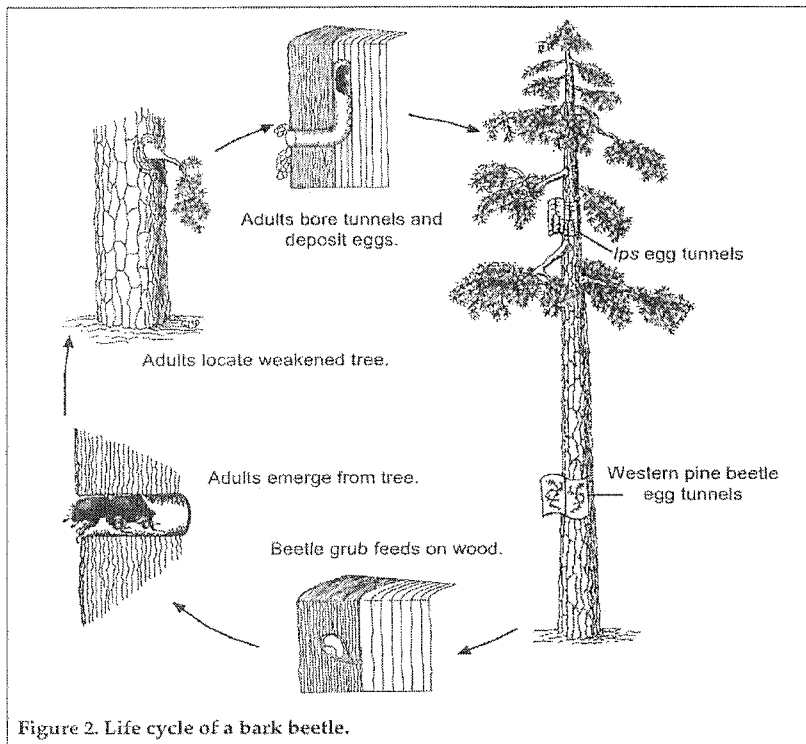
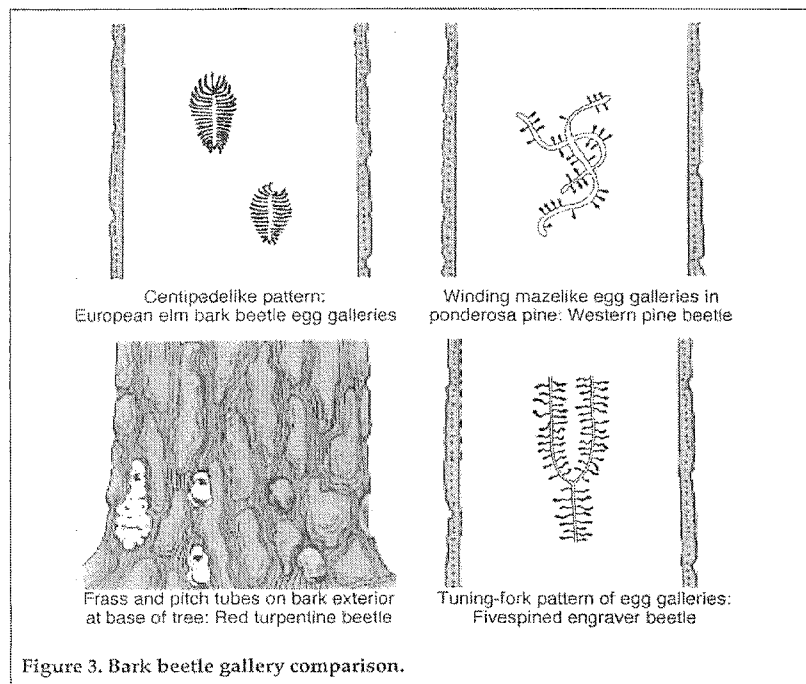

Figure 2. Life cycle of a bark beetle.
Figure 3. Bark beetle gallery comparison.
Females lay small, oval, whitish eggs at the interface of the bark and wood (Fig. 2). After eggs hatch, the tiny larvae mine galleries that branch out from the egg-laying gallery. At first the larval mines are very small, but they gradually increase in diameter as the larvae grow. The winding pattern of these galleries is helpful in identifying a bark beetle infestation and in distinguishing between the different species (Fig. 3). Pupation occurs in enlarged chambers at the ends of the larval tunnels or in the outer bark. Pupae are usually whitish and occur within or beneath bark. Adults can emerge at any time of year, weather permitting, but emergence is most common in late spring and again in late summer to early fall. After emergence, adults generally disperse to attack susceptible trees elsewhere. Most bark beetle species have two or more generations a year in California, depending on temperature. The season of attack is usually longer for species occurring in warmer locations, and they have more generations per year.
ILLUSTRATIONS: Fig. 1: from Doane et al. *Forest Insects*, 1936; Figs. 2: C. M. Dewees; Fig. 3: C. M. Dewees, A. Child, and UC DANR Publ. 3336, *Forest and Right-of-Way Pest Control*.
A. The earliest symptoms of pitch canker usually are dead branch tips in the upper part of the tree canopy. Needles on the ends of these branches are either wilted (Figure 2), red, brown, or absent, and resin exudation is associated with the point of infection on the branch (Figure 3). A more advanced symptom of the disease is the appearance of resinous cankers with heavy exudation of pitch on the main stem and larger branches of the tree (Figure 4). After these stem cankers appear, the top of the weakened tree may be killed by bark beetles and the entire tree may die.
Figure 2. Infected Monterey pine shoot. Discolored area of shoot is the lesion resulting from infection by the pathogen. Note the wilting of the tip of this shoot.